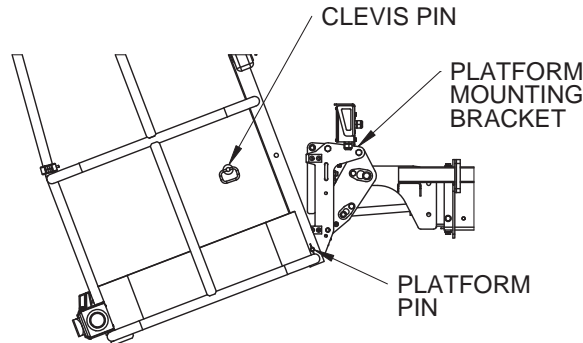

Figure 4-5. Platform Position
- 1) Remove the **CLEVIS PIN** securing the **PLATFORM** to the **PLATFORM MOUNTING BRACKET**, allowing the **PLATFORM** to pivot about the **PLATFORM PIN**. This removes the load from the **LOAD CELL**. Refer to Figure 4-5.